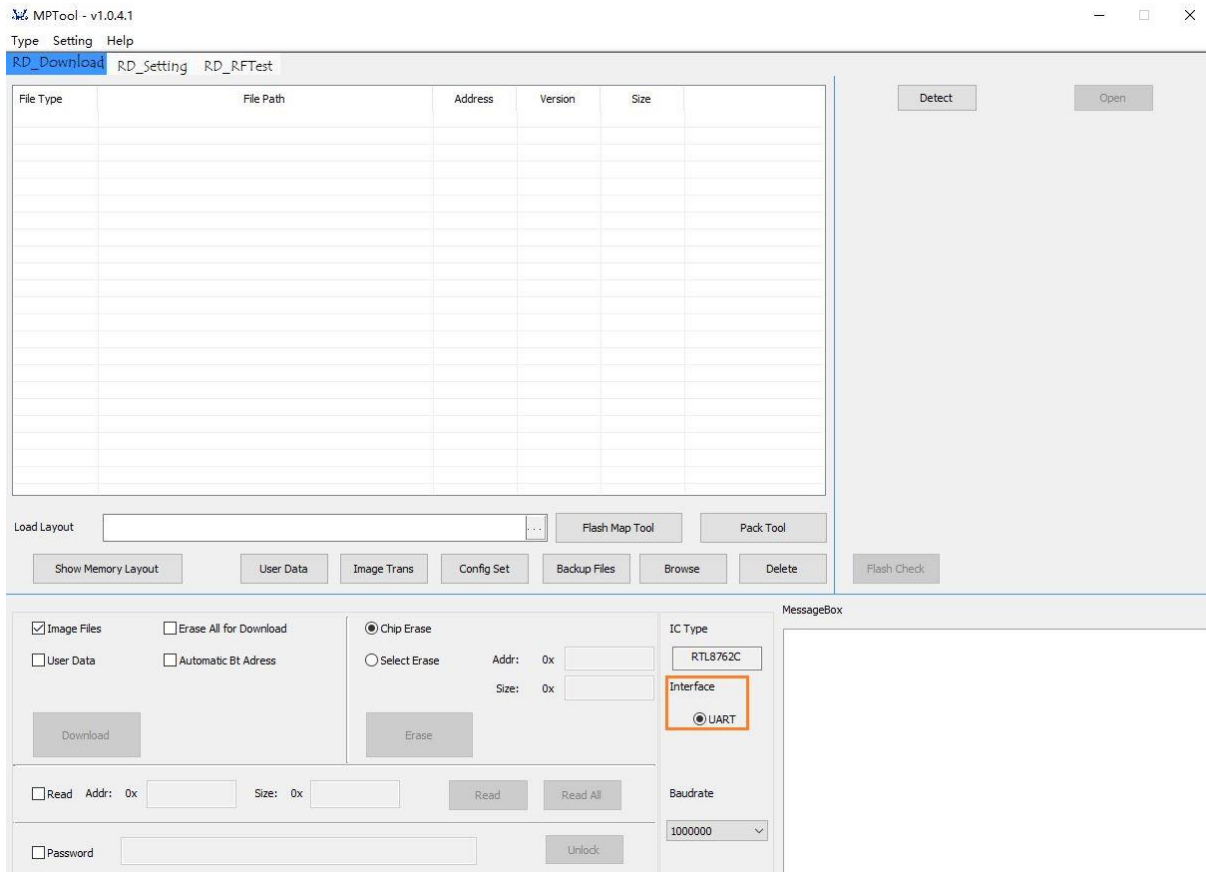

Figure 7-11 Interface for UART-Normal
- 3) Select UART downloading mode, as is shown in Figure 7-11